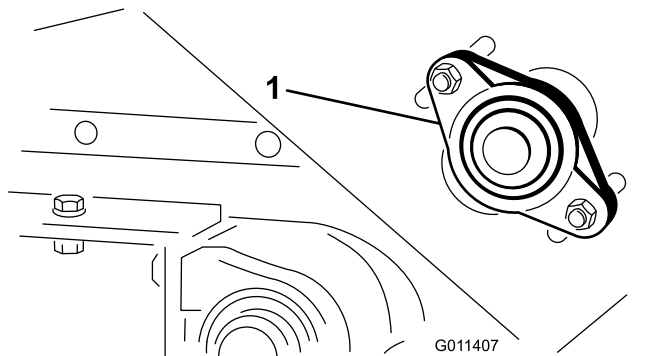

Figure 22
1. Loosen the nuts securing the bearing housing (Figure 22) to the right side of the machine.